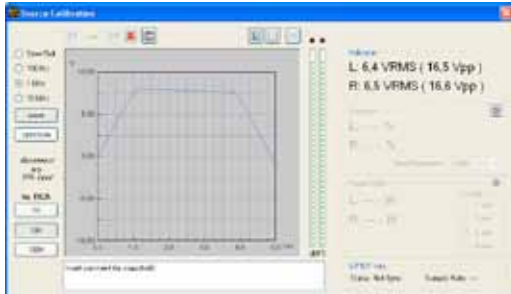
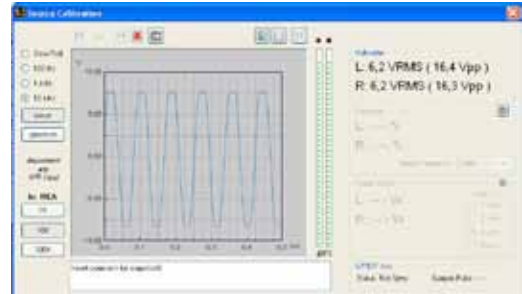
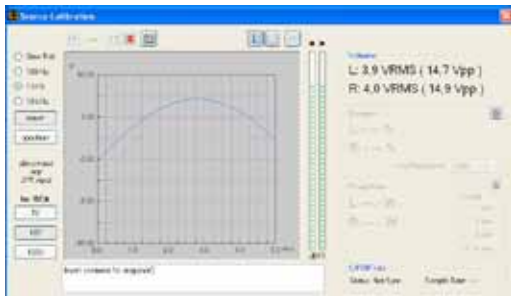

Fig. 1
Fig. 2
Fig. 3
- If the display shows saturated waveforms (clipping) as shown below (fig 1, fig. 2) decrease the source volume so that the signal does not show any saturation (fig. 3, fig. 4). Select the Right channel and repeat the measurement.